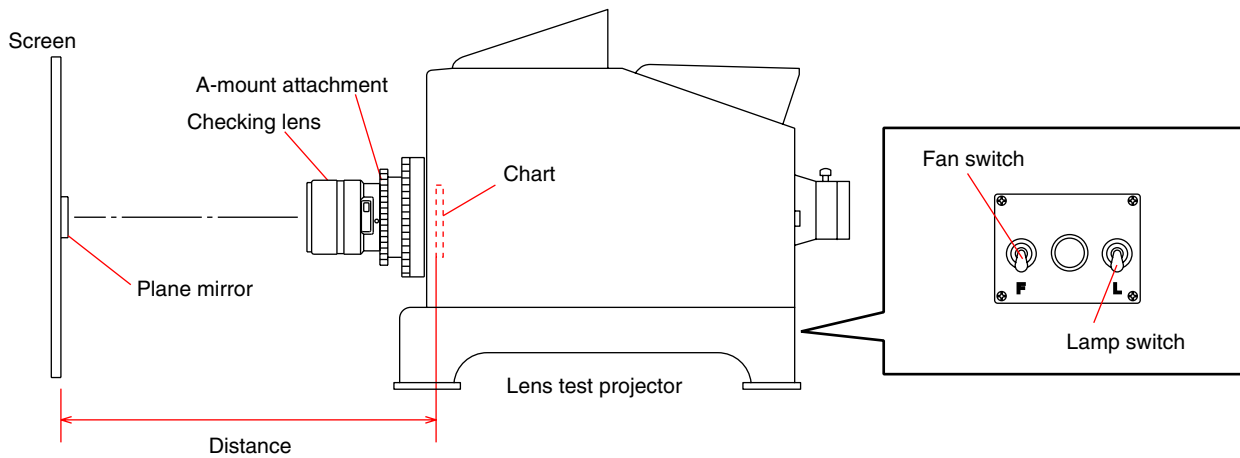

Fig.4-3-2
- 2) Attach the checking lens to the lens test projector, and set the equipments as shown in Fig.4-3-2.